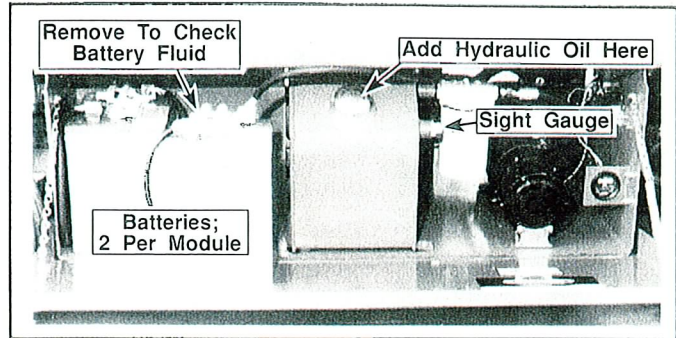

Figure 8: Chassis Power Module, Right Side
2. Check the level of the hydraulic oil with the platform fully lowered. Oil should be visible in the sight gauge (Figure 8). Add ISO #46 hydraulic oil if necessary.
Check battery fluid level daily (Figure 8), especially if work platform is being used in a warm, dry climate.
1. Check battery fluid level (Figure 8). If electrolyte level is lower than $\frac{3}{8}$ in. above plates add distilled water only.